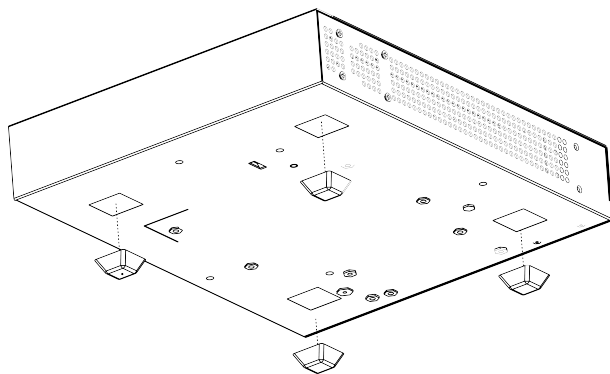

Figure 62: Table Mount: Attaching Rubber Feet
2. Apply the pads to the underside of the RPS by placing a pad at each corner, ensuring that all corners are aligned. Figure 62 shows the locations for attaching the rubber mounting feet on the switch.